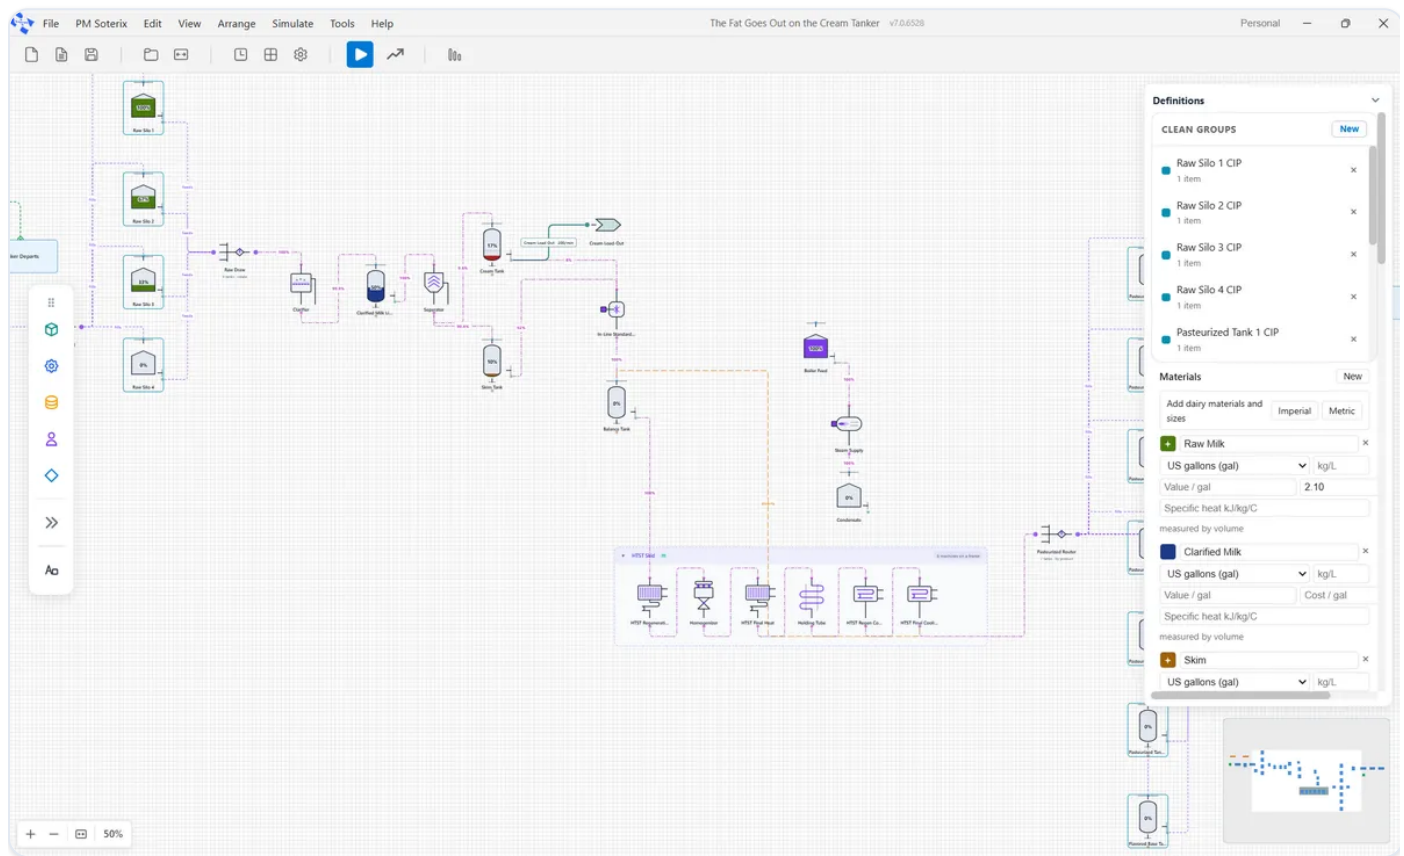

Figure 21. The Fat Goes Out on the Cream Tanker. Receiving on the left, the HTST skid in the middle, the pasteurized tanks and filler on the right.
- Figure 21. The Fat Goes Out on the Cream Tanker. Receiving on the left, the HTST skid in the middle, the pasteurized tanks and filler on the right.